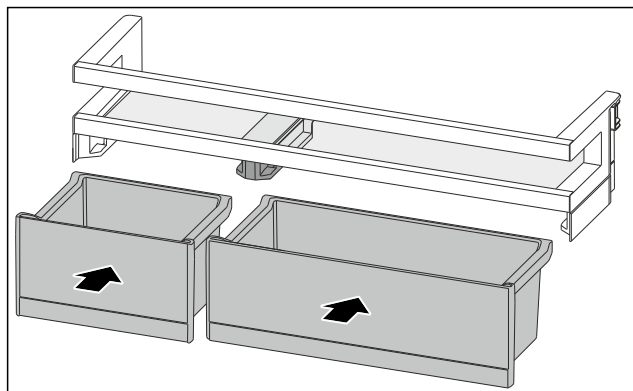

Fig. 159
- Insert the VarioBoxes in reverse order. (see Fig. 159)